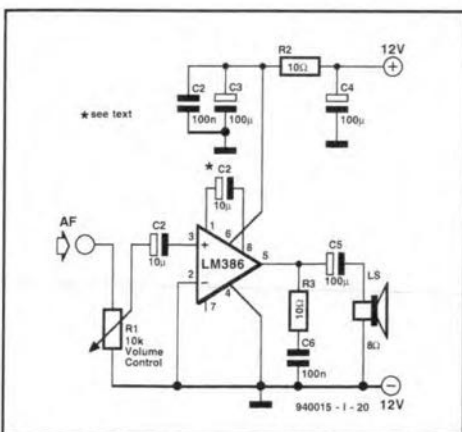

Fig. 10. Audio stage based on the LM386 audio integrated circuit.
an amount that will create a comfortable listening level, while also tailoring the bandpass characteristics of the overall receiver to limit noise and other artifacts. Although any number of discrete and integrated circuit (IC) circuits are suitable, most designers today tend to use the IC versions. Figure 10 shows a simple LM-386 design, while the published literature shows many other designs as well.¹¹
The LM386 design of Fig. 10 is the single-ended configuration for the LM386 low-power audio stage. This IC device contains both preamplifiers and power amplifiers for a nominal output power of 250 mW. The LM386 series of audio power ICs are easy to use, but because of the high gain needed will oscillate if layout is not correct, or if grounding is not proper. There are two basic circuit configurations for the LM386. The differential version was shown in Fig. 6 (Dillon's design), while Fig. 10 shows the more common single-ended design. The gain of the circuit can be either 46 dB ($\times 200$) when capacitor C_2 is used, or 26 dB ($\times 20$) when C_2 is deleted (leave pins 1 and 8 open-circuited).